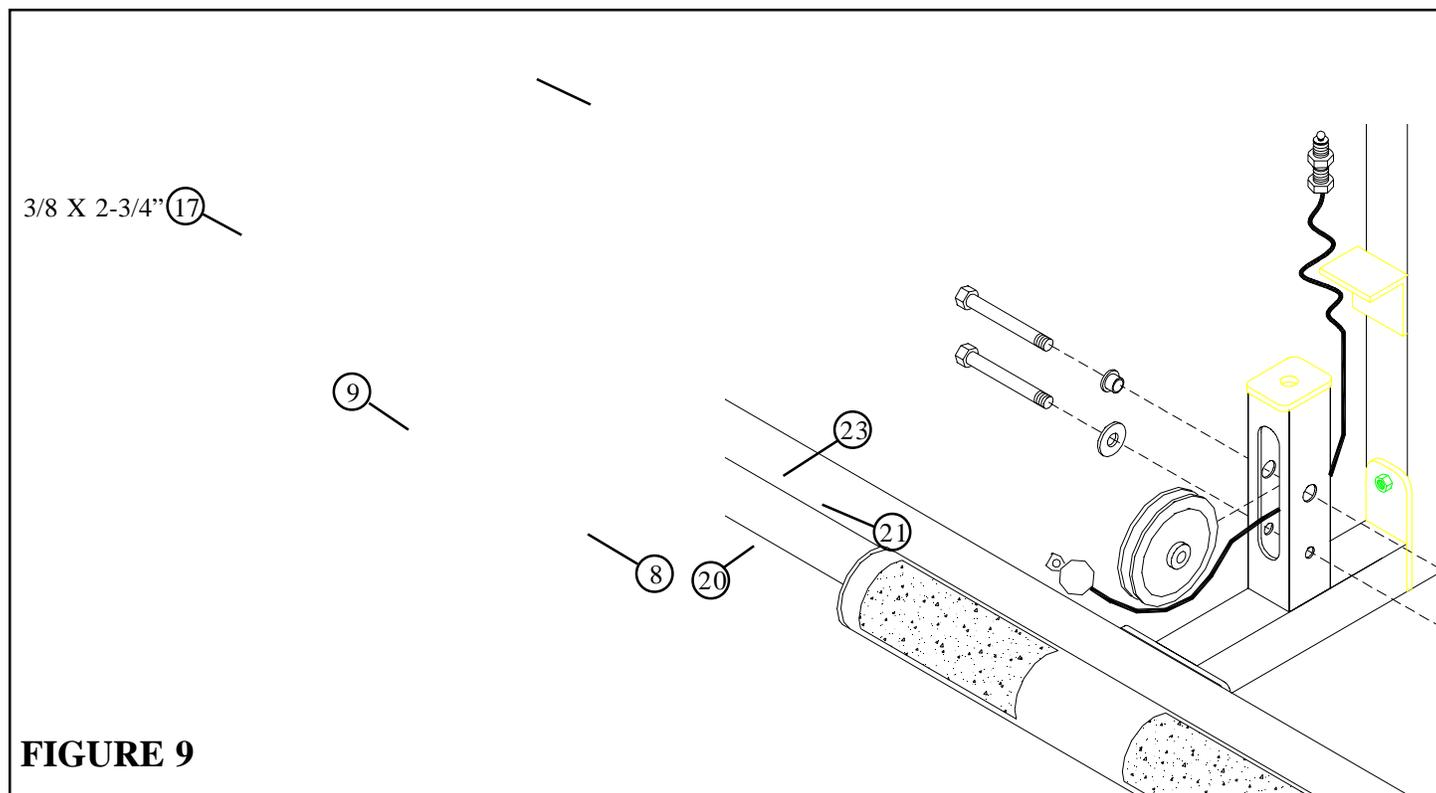

FIGURE 9
- Loop the ball end of the LOW ROW CABLE (12) around one 4-1/2" PULLEY (9) and **SECURELY** assemble the 4-1/2" PULLEY (9) to the LOW PULLEY HOUSING (8) using two 3/8 X 2-3/4" BOLTS (17), two 3/8" FLANGE SPACERS (22), two 3/8" WASHERS (20), and two 3/8" LOCKNUTS (21). **(NOTE: Make sure CABLE is routed between the PULLEY and the retaining bolt as shown in FIGURE 9.)**